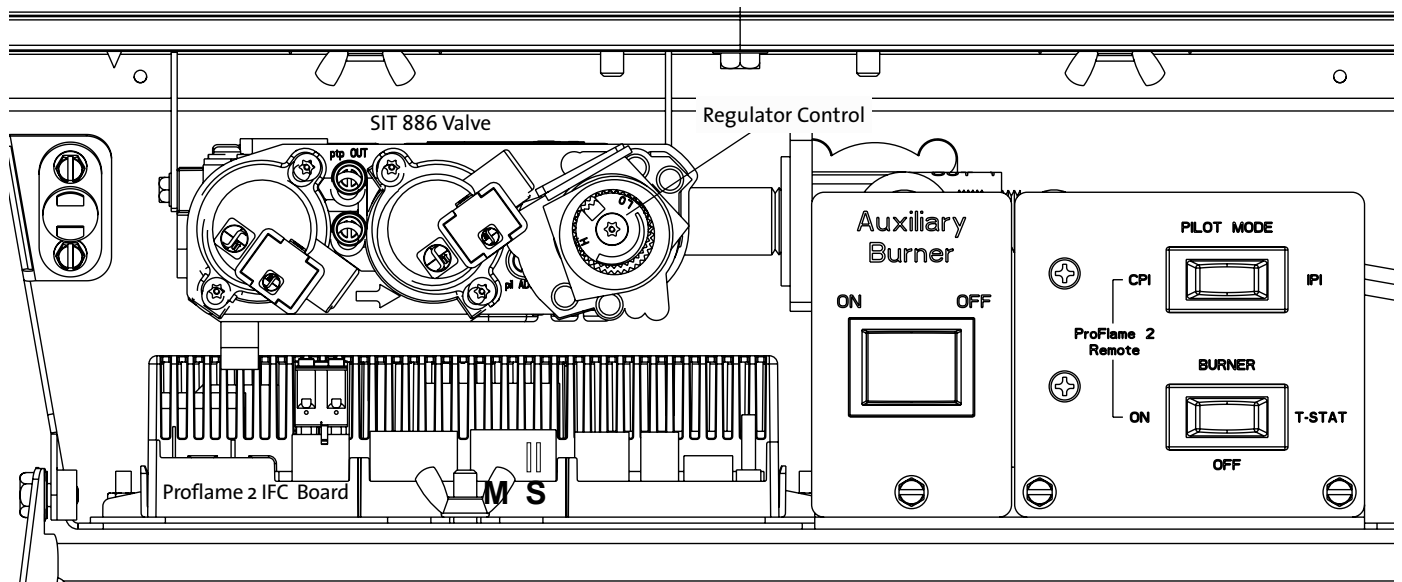

Figure 52. GF 500 DV IPI Controls Compartment.
1. Set the Burner switch to OFF. See fig. 52.
Switch the Burner to OFF. See fig. 52, pg. 29.